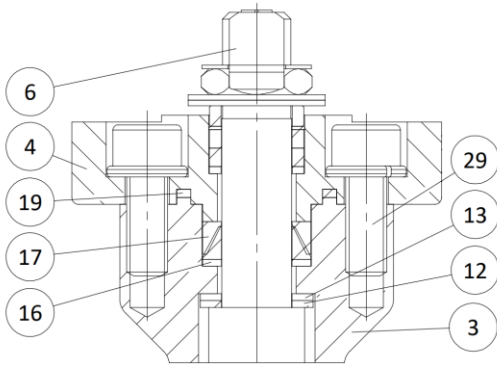

Figure 2 – Stem, extension and iso flange assembly
- Place the seal (19) into the iso flange (4) and tighten with the bolting (29) according to Table 3 – Packing bolting system Torque [Nm]. After tightening verify that the iso flange (4) is completely in contact with the extension as shown in Figure 2 – Stem, extension and iso flange assembly It may be required to press down the iso flange and re-tighten to ensure the correct position of the iso flange (4);